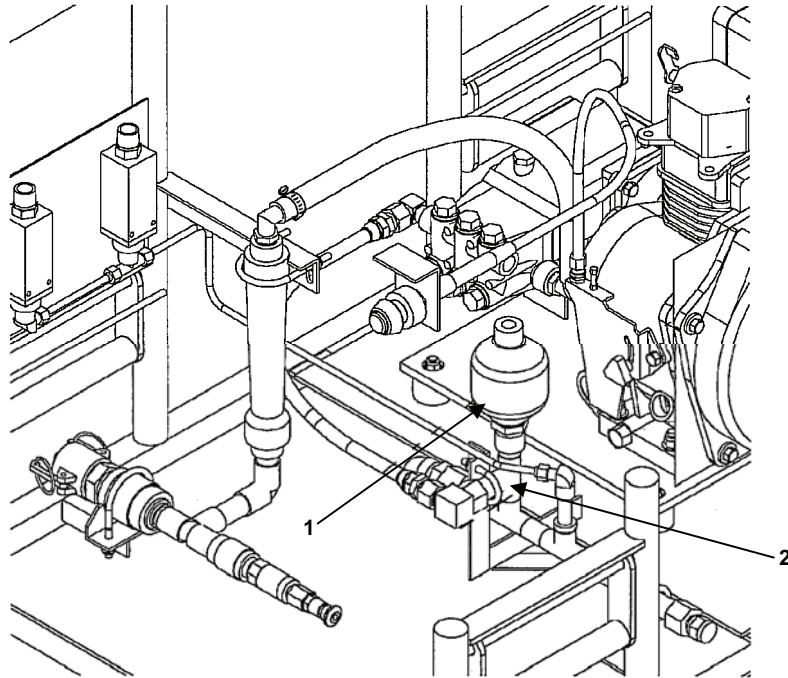

Figure 2. Pulsation Dampener.
Remove pulsation dampener (Figure 2, item 1) by unthreading from tee fitting (Figure 2, item 2).
1. Refer to Figure 2 for this procedure section.
2. Thread pulsation dampener (Figure 2, item 1) securely onto the tee fitting (Figure 2, item 2).